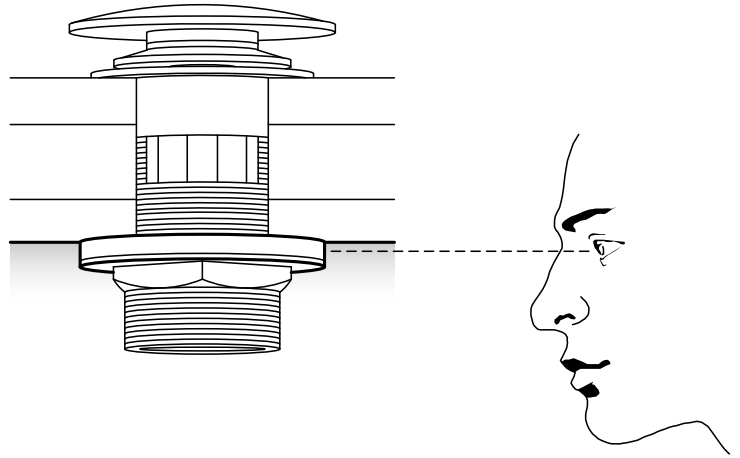

Figure 8
19. Fill the tub with water to the overflow and then drain the tub while inspecting the waste connections below the floor for leaks. Access from below will be necessary for this step (figure 8).